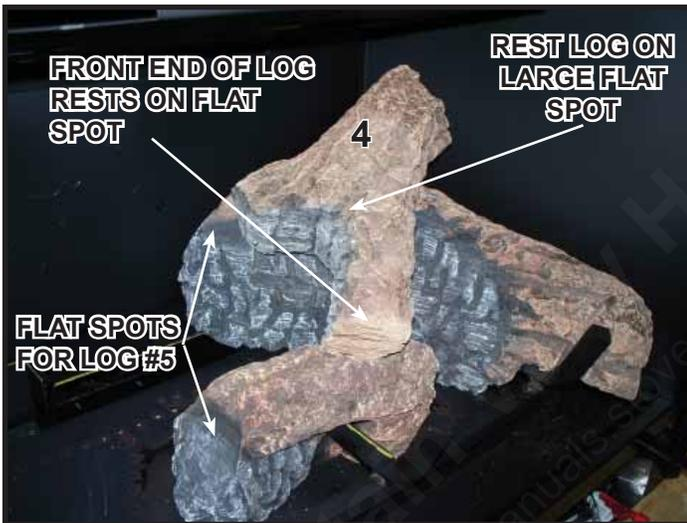
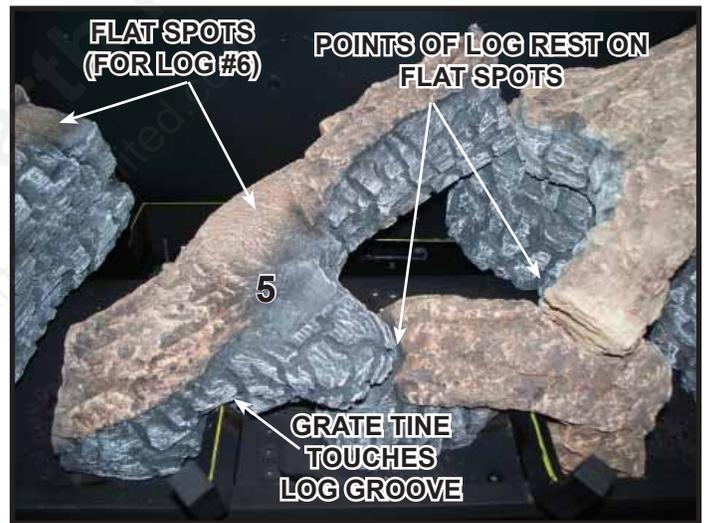
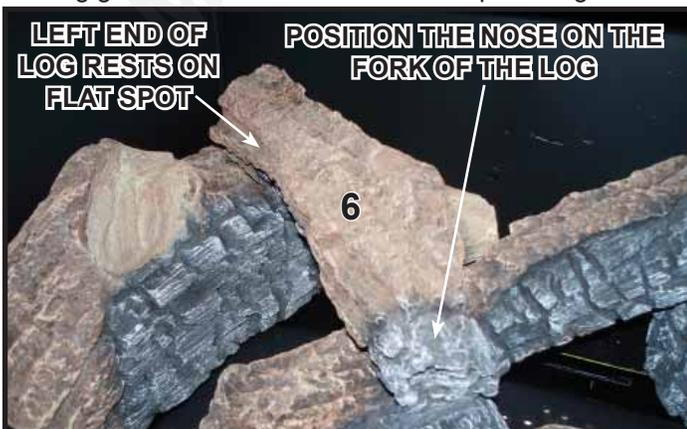

Figure 6. Place Log #4
Figure 7. Position Log #5
Figure 8. Position Log #6
**Log #4 (SRV2206-703):** Position Log #4 as shown in Figure 6. See Figure 3 for additional references. Place the thick end of Log #4 on the large flat spot on Log #1. Rest the front end of Log #4 on the flat spot of Log #2.
**Log #5 (SRV2206-704):** Position Log #5 as shown in Figure 7. See Figure 6 for additional details. Mate the grate tine with the log groove as shown. Position the tips of Log #5 on the flat spots as shown in Figure 6.
**Log #6 SRV(2206-706):** Position Log #6 as shown in Figure 8. See Figure 7 for additional references. Rest the left end of Log #6 on the flat spot of Log #3. Position the nose of Log #6 on the fork of Log #5.